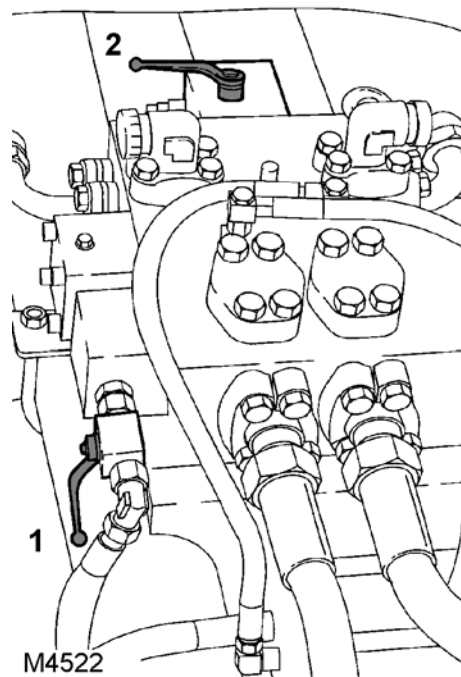
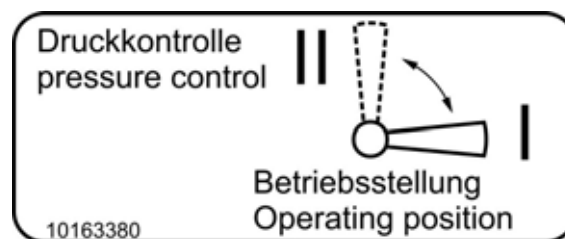

Fig. 642 Put the ball valves in position
Fig. 643
2. Move both ball valves (1+2) (**Fig. 642**) on the pump kit, for example, into the "pressure control" position (**Fig. 643**) so that the pistons come to a standstill.